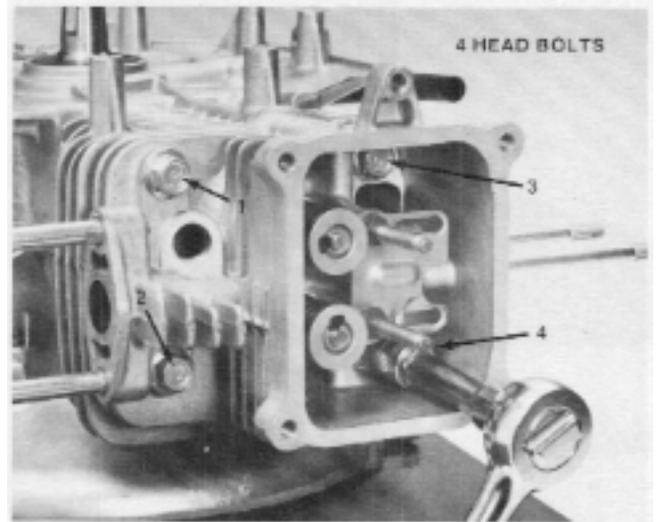

Figure 4-55
4. Insert the four head bolts and torque to 1.8 - 2.8 kg-m (13 - 20 ft-lb). See Fig. 4-55.